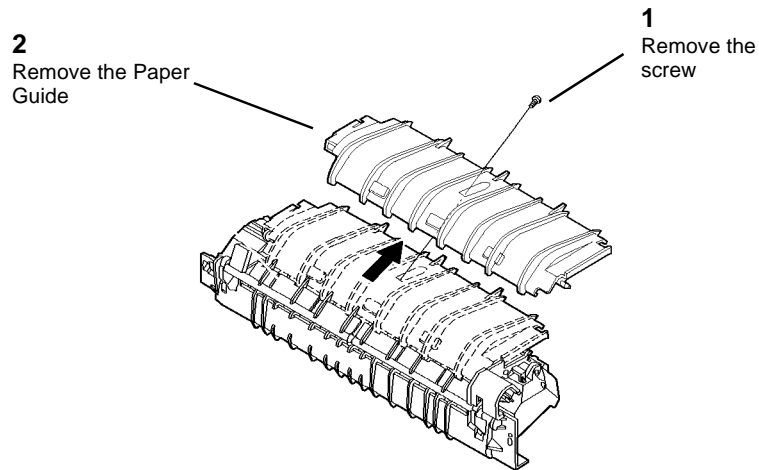

Figure 1 Removing the Paper Guide
4. (Figure 1): Remove the Paper Guide.